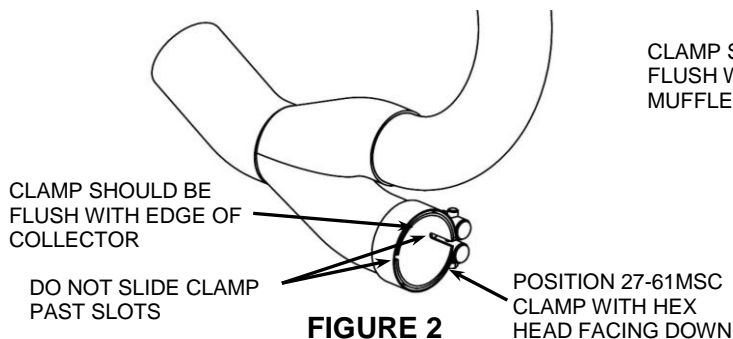

FIGURE 2
8. Position the supplied #27-61 MSC clamp with hex head facing the direction shown in **FIGURE 2** over the inlet of the collector on the rear headpipe.
12. Secure the muffler assembly to the exhaust mount bracket using the (2) supplied 5/16"-18 bolts but **DO NOT TIGHTEN**.
13. Make sure the muffler assembly, front headpipe, and rear headpipe are aligned properly and tighten in the following order; headpipe flanges to the cylinders (slowly tightening opposing nuts), front headpipe clamp, muffler clamp, and finally the muffler assembly to the exhaust mount. (NOTE: The muffler clamp and headpipe clamp should be flush with the end of the inlets when tightened. See **FIGURE 2 & 3**. If the clamps are slid past the slots on the inlets the clamps will not tighten properly).